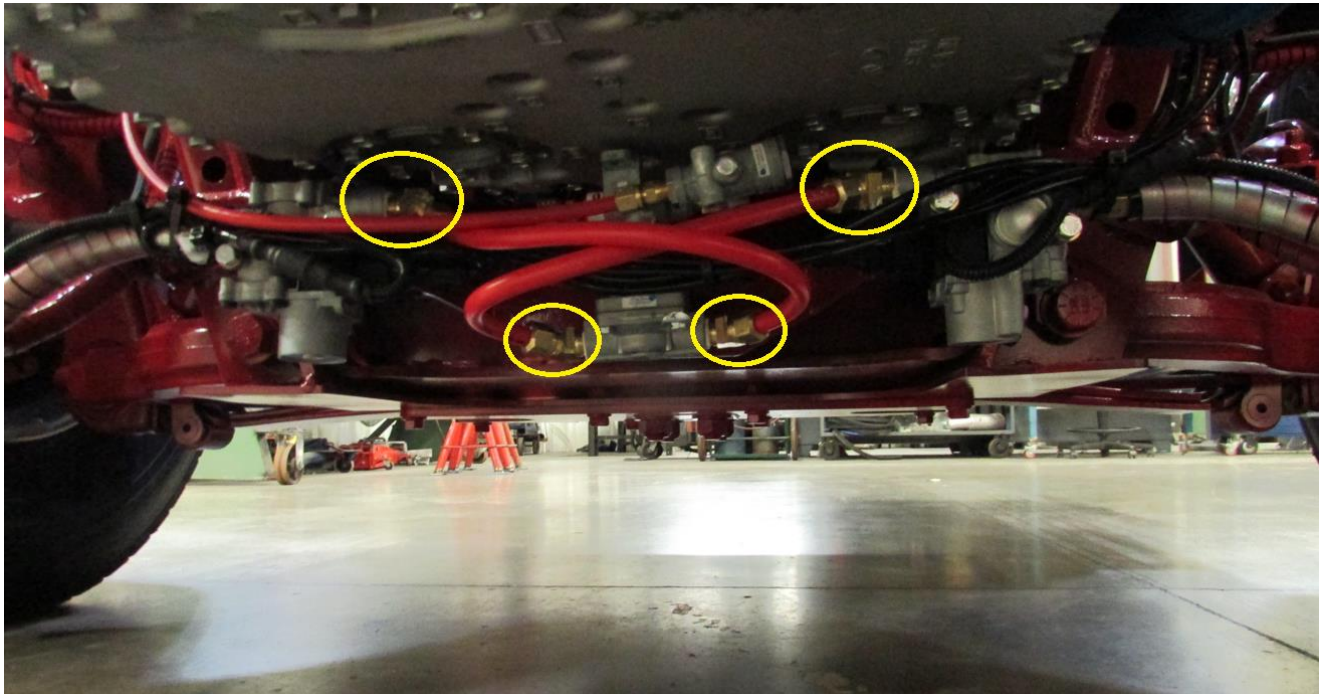

Figure 2.1
3. Disconnect the hose and fittings from the quick release valve delivery ports and the modulator valve supply ports. *See Figure 2.1*